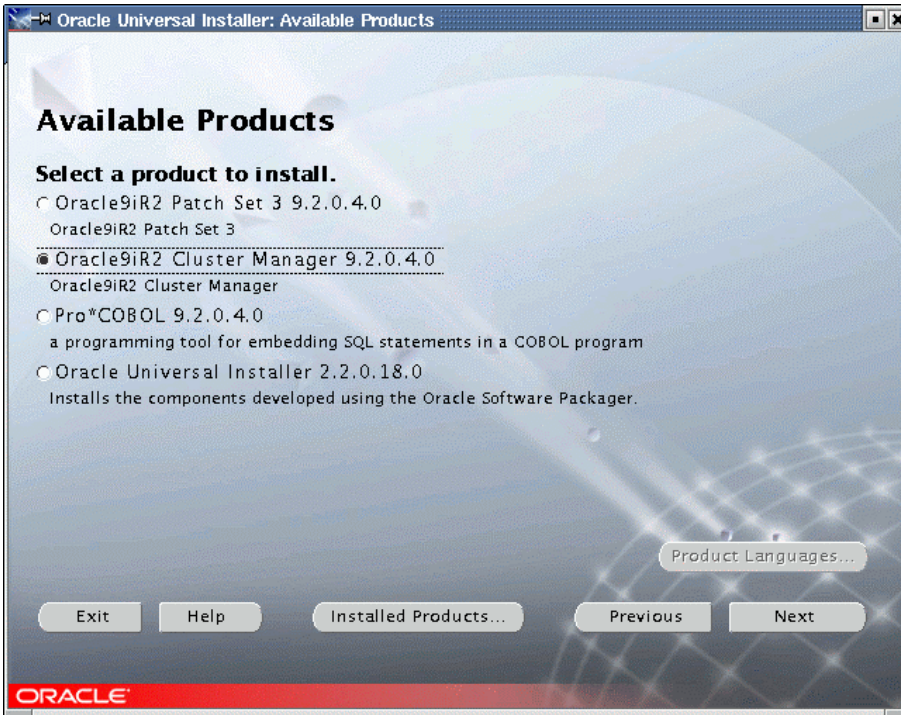

Figure 59. Available Products
- On the Available Products screen, select Oracle9iR2 Cluster Manager 9.2.0.4.0, as shown in Figure 59. Click **Next** to continue.